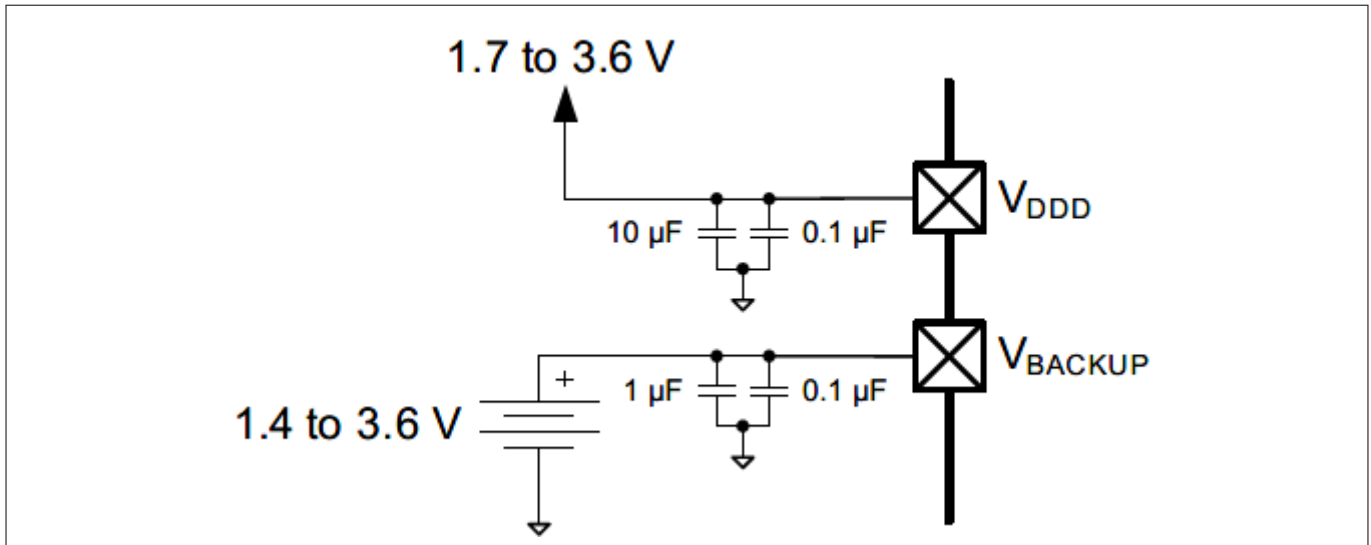

Figure 16 Separate Battery connection to V_{BACKUP}
- V_{BACKUP} : the supply for the backup domain, which includes the 32-kHz WCO and the RTC. It can be a separate supply as low as 1.4 V, for battery or supercapacitor backup, as Figure 16 shows. otherwise it is connected to V_{DDD} . It powers I/O port 0.